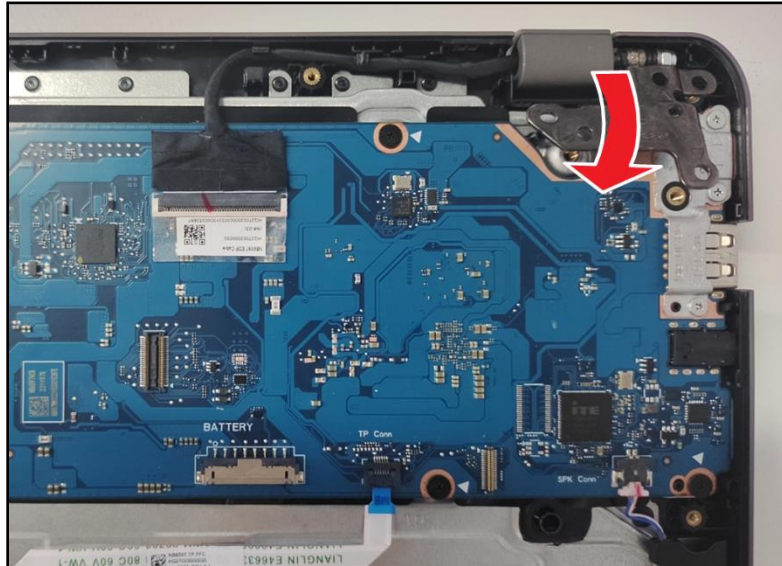

Figure 3-89. Replacing the Mainboard
13. Close the left LCD hinge until it is fully seated in place (Figure 3-89).